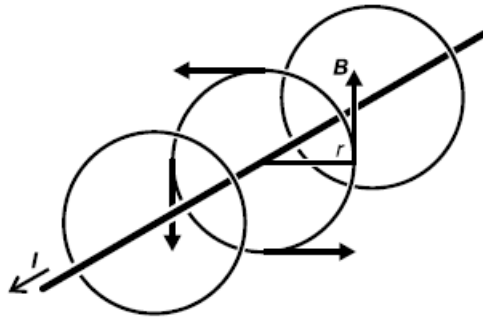

Fig. 1: Magnetic field of an infinitely long wire
Where μ_0 ($= 4\pi \times 10^{-7}$ T. m / A) is the permeability of free space; I is the current in Ampères (A); $d\vec{s}$ is an elemental vector along the direction of current flow with the unit of length in meters (m); \vec{r} is the position vector of the point at which the magnetic field is evaluated, with its origin at the position of the elemental length vector (its units are length in meters); and \vec{B} is the magnetic field vector, which has units of Tesla or Weber/meter². You can think of this expression as a means of calculating the magnetic field generated by a current of magnitude I flowing along a small piece of wire with a length $d\vec{s}$ and a negligible cross-sectional area. The geometry is shown in Fig. 1. This equation is often referred to as the Biot-Savart Law.